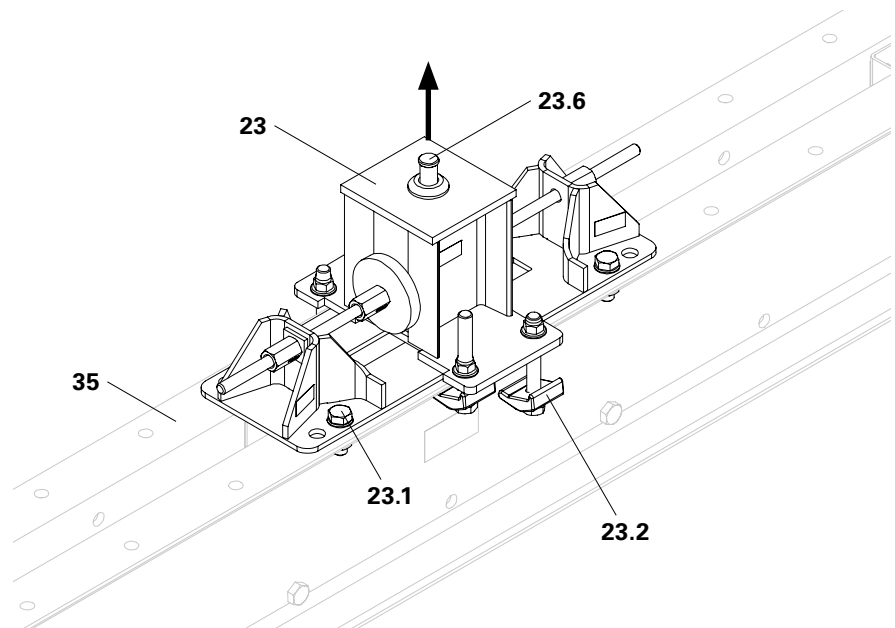

Fig. E1.03
4. Remove Horizontal Bearing (23) from the Main Beam (35). (Fig. E1.03)